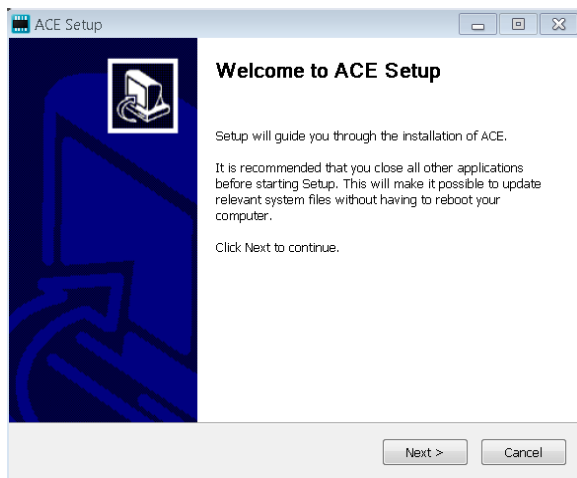

Figure 3. Evaluation Software Install Confirmation
4. Click **Next >** to continue the installation, as shown in Figure 3.